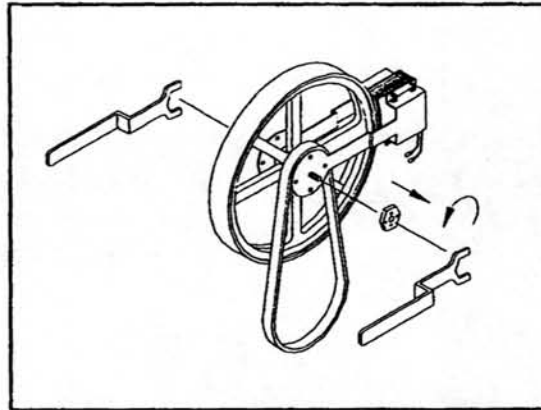

Fig.13-2
3. Continue to fix the hexagonal head nut on the left side of the WHEEL by a wrench. Use another wrench by turning counterclockwise to release the hexagonal head screw from the WHEEL (see fig.13-2)